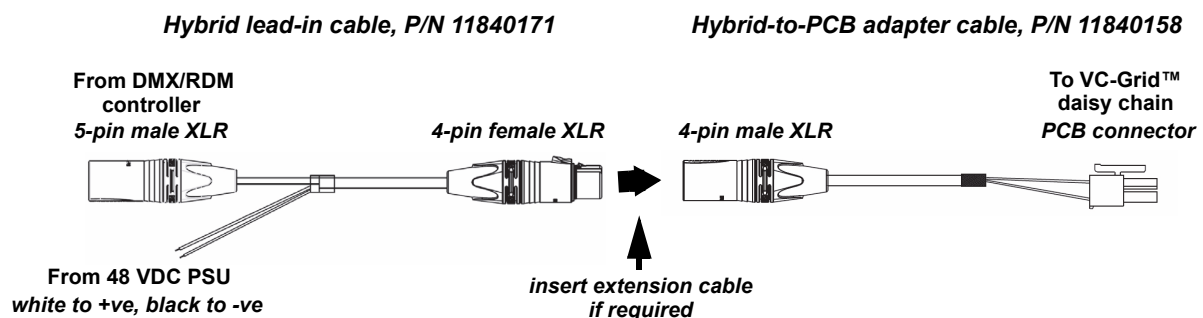

Figure 5: Power and DMX data input to a VC-Grid daisy-chain
- a Martin hybrid lead-in cable, P/N 11840171 (see Figure 5), or
- a DMX/RDM Splitter such as the Martin 5.5 RDM Splitter™, P/N 90758150, and then to a Martin hybrid lead-in cable P/N 11840171 (see Figure 5).
5. See Figure 5. Connect a Martin™ hybrid-to-PCB adapter cable (P/N 11840158) to the first VC-Grid of each hybrid link, then connect it to the Martin™ hybrid lead-in cable (P/N 11840171).
If you need a longer cable run to a VC-Grid daisy chain, extend the arrangement shown in Figure 5 by inserting a Martin™ 4-pin XLR hybrid extension cable between the Hybrid lead-in cable P/N 11840171 and the Hybrid-to-PCB adapter cable P/N 11840158. Hybrid extension cable is available from Martin™ in various lengths. See “Power + data extension cables” on page 21 for ordering information.